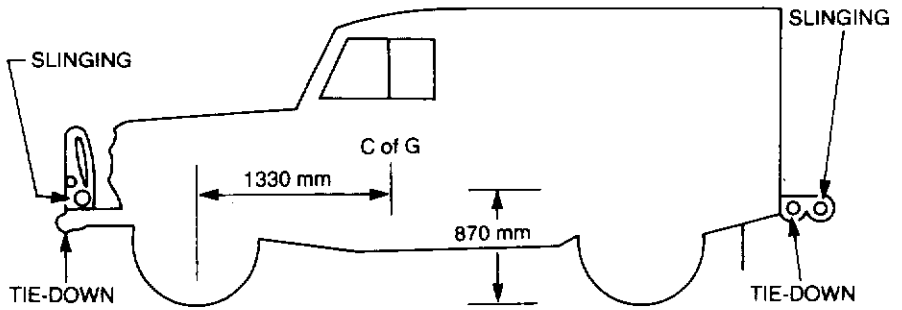

Figure 1-3 Slinging and tie-down points
33. Slinging and tie-down points are illustrated in Fig. 1-3.